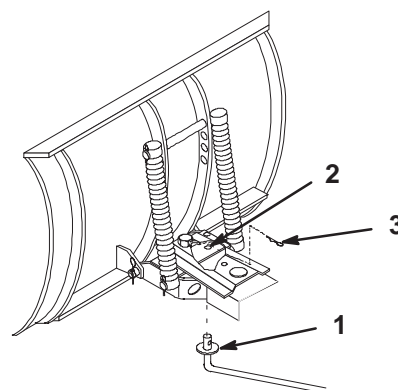

Figure 4
11. Insert control rod, end with welded washer, thru hole in bottom plate of channel weldment (Fig. 4). Secure with cotter pin, between the plates.